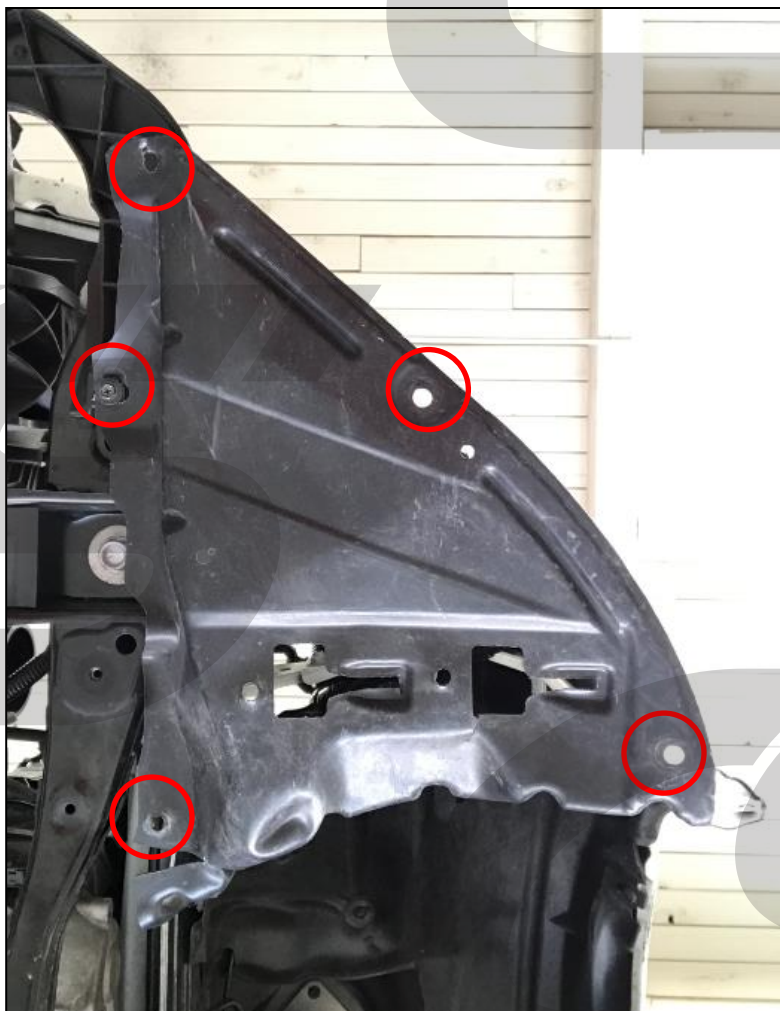

Figure 1b
- e) **Loosen the left hand side inner fender.** Remove the five 8mm head screws for the lower section of the inner fender. **Red circles in figure 1b.**